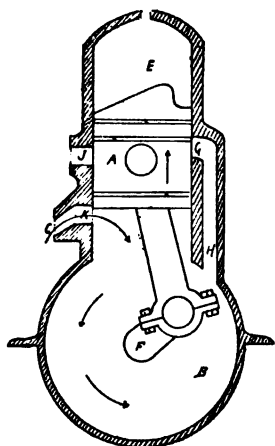

Fig. 5
This particular kind of two-stroke motor is known as the "*two-port*," and there are various other types which operate in a similar manner with minor variations. The most important of these is the "*three-port*" motor, which is illustrated in Figs. 5 and 6. In this form there is no check-valve in the base, but in its place there is a third port (K),
In Fig. 5 the motor is shown with the piston commencing